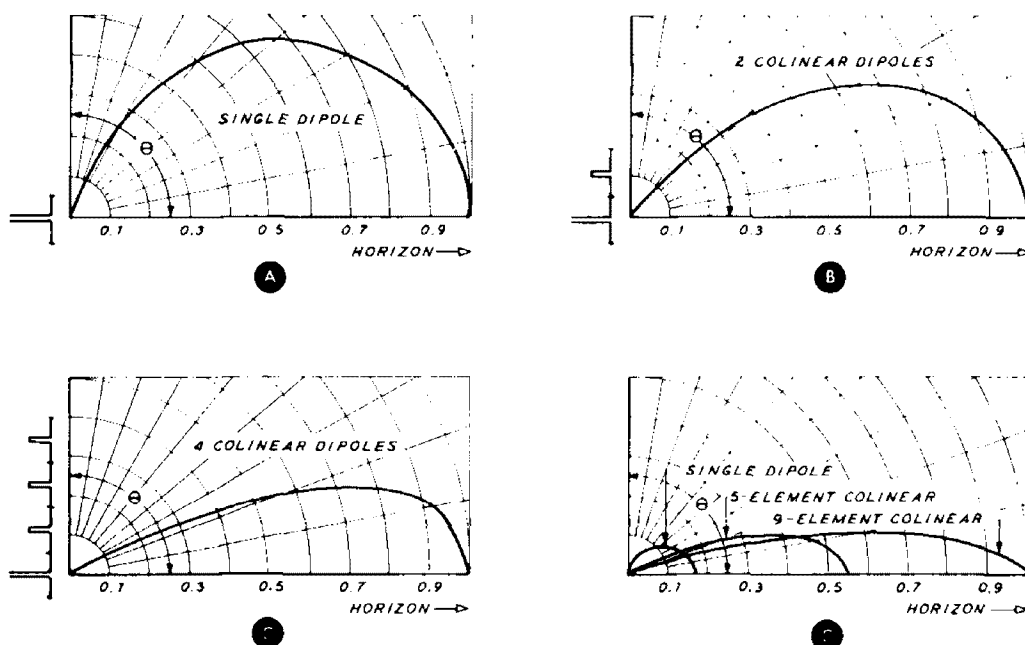
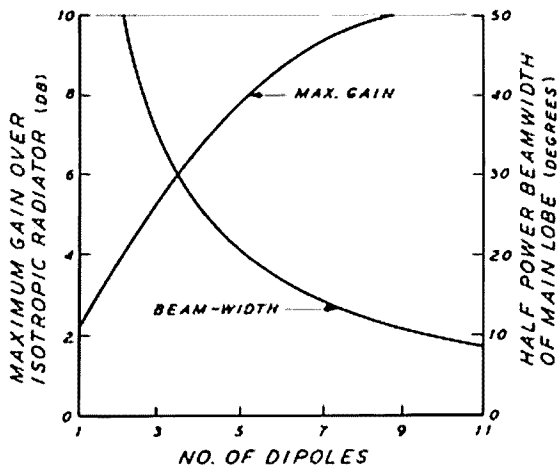

fig. 4. Free-space polar radiation patterns of colinear antennas without reflectors.
fig. 5. Relationship of maximum gain and half-power beamwidth to the number of colinear dipoles in the array.
The curves in fig. 4, which represent polar radiation patterns in free space, show what may be expected (theoretically) as phased colinear dipoles are added to a simple dipole antenna, also in free space. It is seen that the addition of phased dipoles causes the radiation pattern to exhibit a flatter shape. Fig. 5 shows the relationship between maximum gain and the half-power beamwidth, as a function of the number of added dipoles, over an *isotropic radiator*. Note that the gain of a single dipole (fig. 5) is referenced to approximately 2 dB, which is generally accepted as its gain over an isotropic radiator.
colinear array is about 8 dB over that of a single dipole, or 10 dB over an isotropic radiator (see fig. 5).
The curves in fig. 4 are graphical expressions of the magnitude of the free-space polar-field radiation patterns of colinear antennas without reflectors:¹
*The number of minor lobes (not shown) of the polar patterns of fig. 4 is given by the smallest integer nearest the value $(n-1)/2$, where n is the number of dipoles. For example, 8 and 9 dipoles would have 3 and 4 minor lobes respectively.